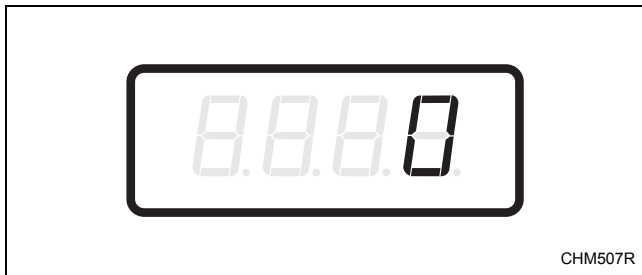

Figure 21
2. When “SA13” appears in the display, press the START (enter) keypad. There are five digits in the Special Vend A Vend Price #3. The fifth digit will appear in the display and will flash one second on and one second off. Refer to *Figure 21*.